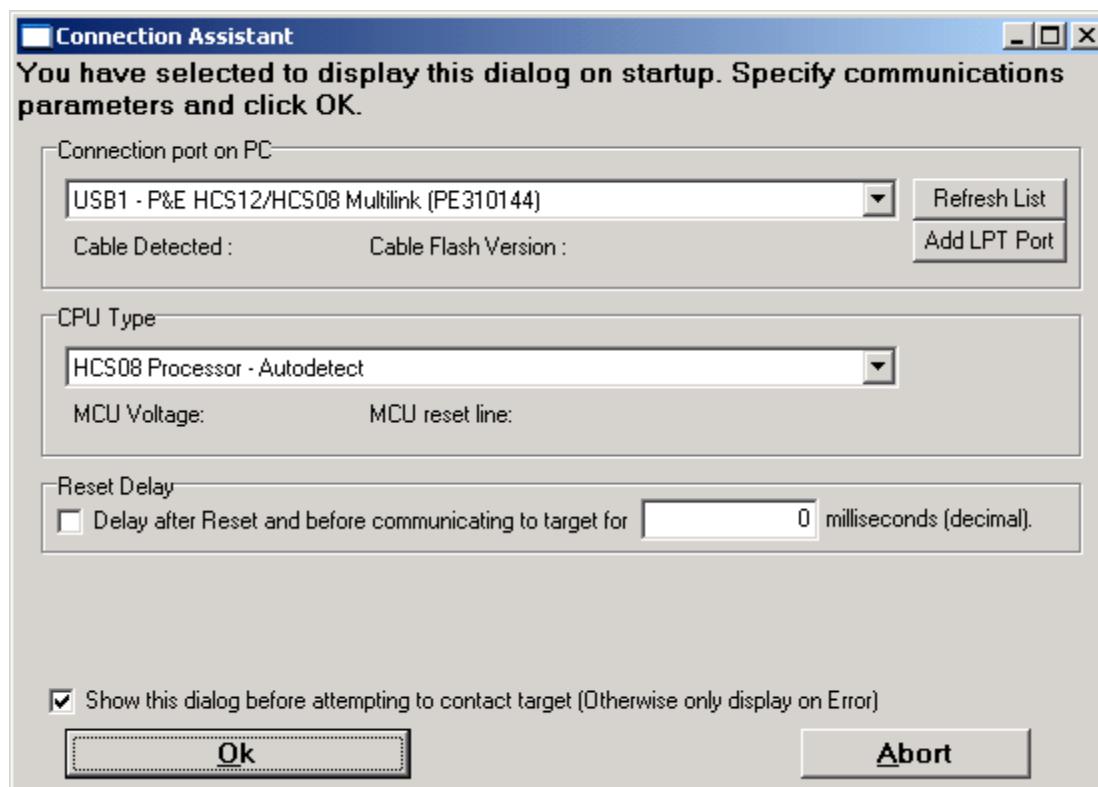

Figure 17 Connection Assistant Window
4. The “Connection Assistant” window appears where you can select the debugger interface connection. As shown in Figure 17, a USB connection was chosen and the HCS08 was selected as the CPU type. Click the “OK” button.